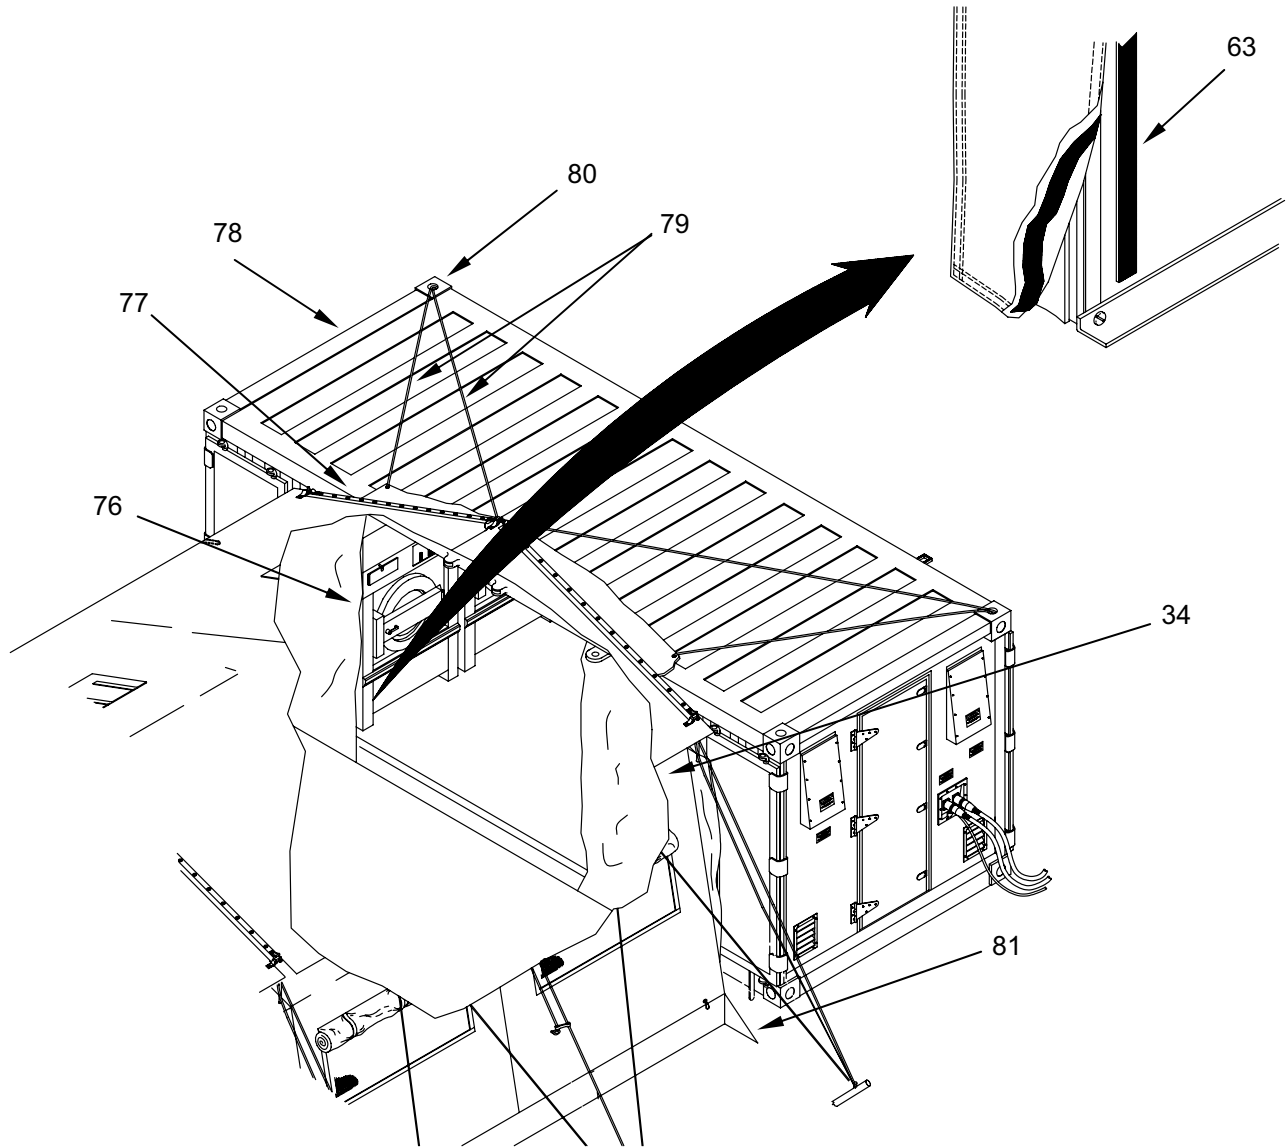

Figure 36. Moving the TEMPER Section into Position.
2. Join hook-and-pile fasteners (**Figure 36, Item 63**) of modified endwall (**Figure 36, Item 34**) and double entrance doorframe (**Figure 36, Item 76**).
3. Tie the ropes on the rain guard (**Figure 36, Item 77**) to a tent stake. Throw the tent stake over the container to ensure the rain guard ropes can be secured.
4. Pull rain guard (**Figure 36, Item 77**) onto the roof of the CBL (**Figure 36, Item 78**) using rain guard cords (**Figure 36, Item 6**). Remove tent stakes.
5. Run rain guard cords (**Figure 36, Item 79**) through the container lifting eyes (**Figure 36, Item 80**), and tie off to the cleats located on the far side of the container.
6. Secure the lower end of the bootwall to the ground with 12-in. steel pins (**Figure 36, Item 81**).